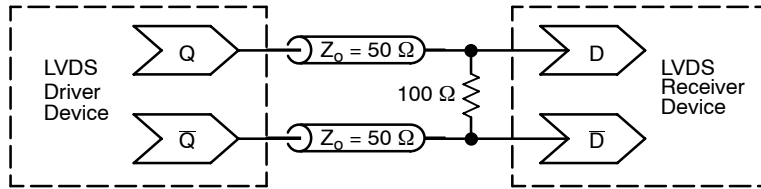

Figure 13. Typical LVDS Termination for Output Driver and Device Evaluation
5. LVDS outputs require 100  $\Omega$  receiver termination resistor between differential pair. See Figure 13.
12. Measured by forcing  $V_{INPPmin}$  with 50% duty cycle clock source and  $V_{CC} - 1400\text{ mV}$  offset. All loading with an external  $R_L = 100\ \Omega$ . Input edge rates 150 ps (20%–80%). See Figure 13.